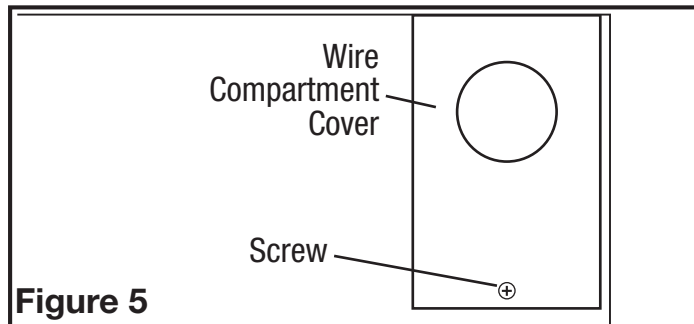

Figure 5
1. Remove the wire compartment cover screw and place cover in a secure place (**Figure 5**).